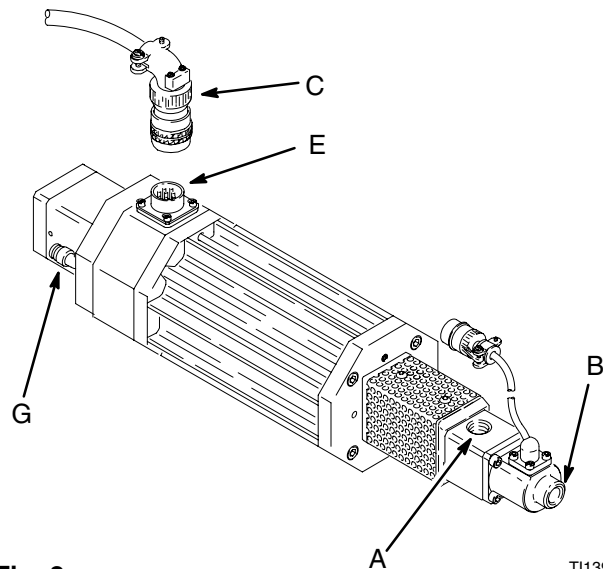

Fig. 2
2. Connect the fluid supply line to the 3/8–18 npt fluid inlet (A). See Fig. 2.
3. Connect a fluid line between the 3/8–18 npt fluid outlet (B) and the dispensing device.
4. Connect the electrical cable (C) to the Metering Valve connector (E).
5. Connect a 0.25 inch (6.35 mm) O.D. air line between the closer air inlet (G) and the closer actuating air valve.
2. Disconnect the electrical cable (C) from the metering valve connector (E). See Fig. 2 on page 4.